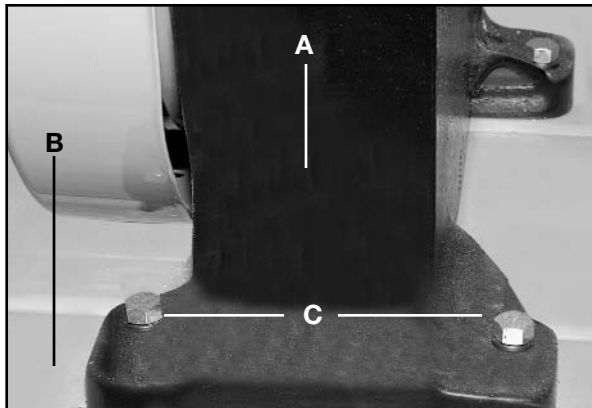

Fig. 3
Attach the band saw (A) Fig. 3 to the stand (B) Fig. 3, using the four 5/16-18 x 1-3/4" hex head screws (two of which are shown at (C)), flat washers, lockwashers and 5/16"-18 hex nuts. Place the hex head screws and lockwashers through the tool base and the stand. Secure with lock washers and hex nuts from underneath. Push down on top of the stand so that the legs of the stand adjust to the surface of the floor. Tighten all of the hardware.